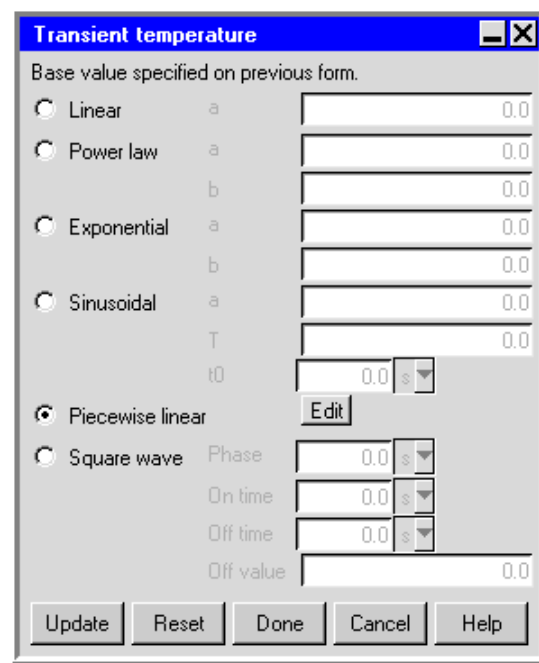
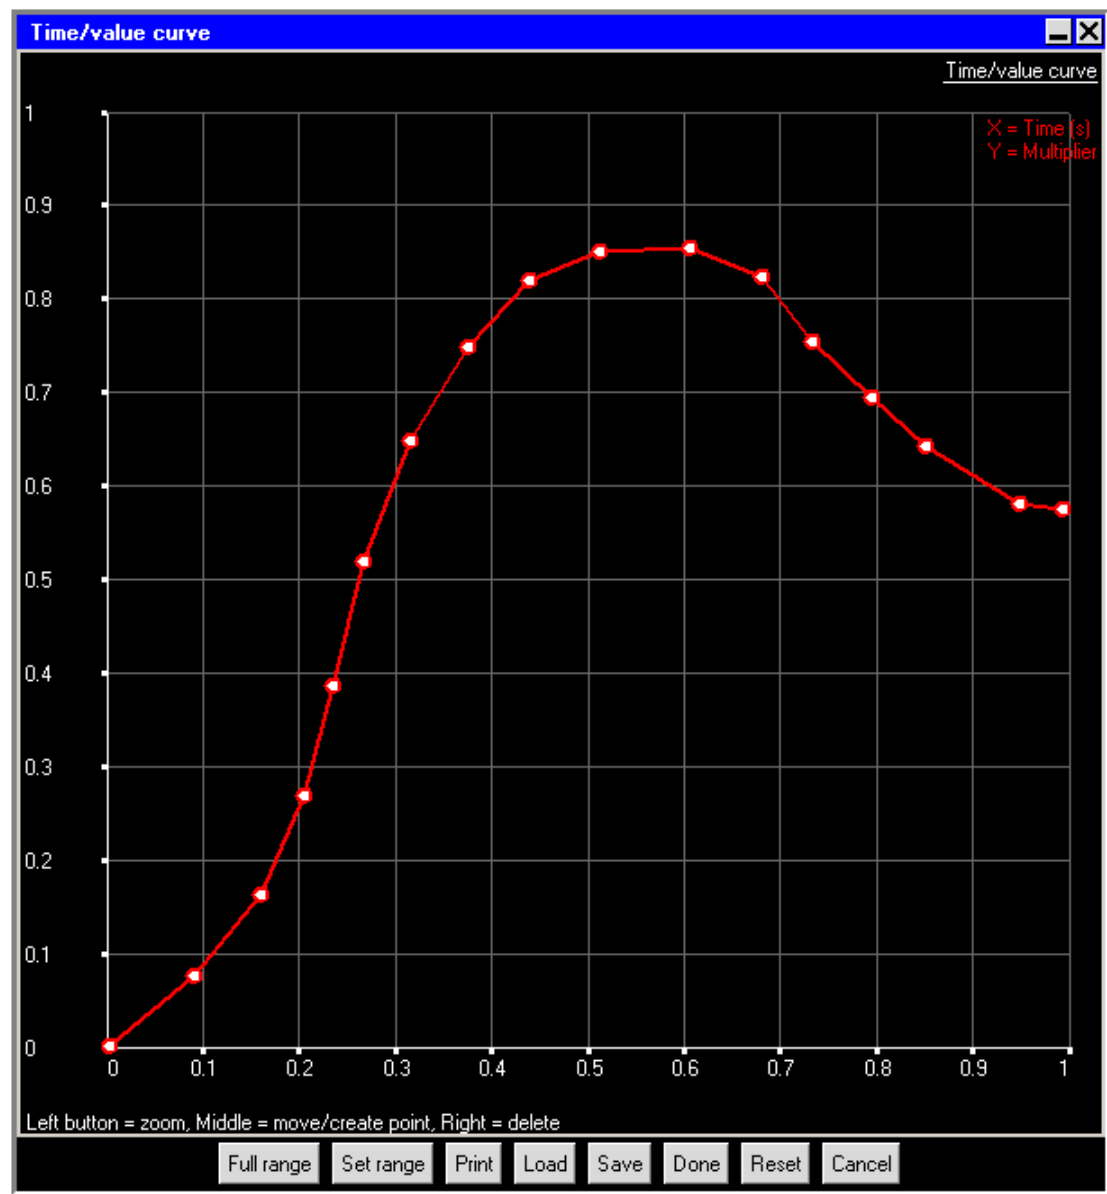
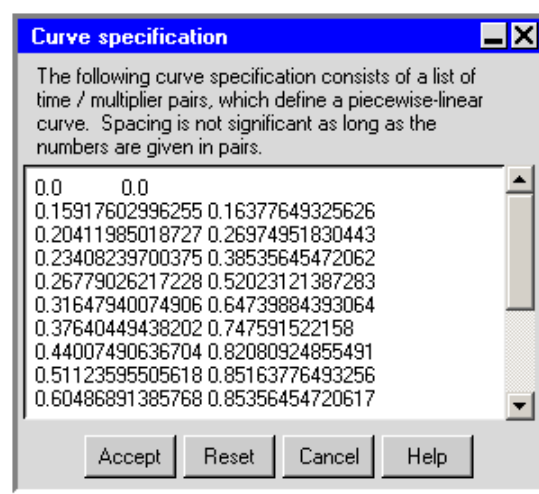

Figure 20.1.6: The Transient temperature Panel
Figure 20.2.3: The Time/value curve Graphics Display and Control Window
Figure 20.2.5: The Curve specification Panel
5. To define the variation of ambient temperature as a function of time, select **Transient** next to **Temperature**, and then click **Edit**. This will open the **Transient temperature** panel shown in Figure 20.1.6.
- **Solid or fluid block:** Specify the total power as a function of time by selecting the **Transient** option in the **Properties** tab of the **Blocks** panel (see Chapter 8) and clicking **Edit**. The **Transient power** panel used to define the transient power of the block is very similar to the **Transient temperature** panel shown in Figure 20.1.6. You must also specify the start time **tS** and the end time **tE** for the transient simulation for the block.
- **Hollow block:** Specify the species concentrations as a function of time (see Chapter 21 on species transport). Select **Species** in the **Blocks** panel and click the **Edit** button to open the **Species concentrations** panel. Select **Transient** for the desired species and click **Edit** to open the **Transient species** panel. The **Transient species** panel is used to define the transient species concentrations for the block and is very similar to the **Transient temperature** panel shown in Figure 20.1.6. You must also specify the start time **tS** and the end time **tE** for the transient simulation for the block.
- **Fan:** Specify the transient strength of a characteristic curve fan by turning on **Transient strength** in the **Properties** tab of the **Fans** panel (see Chapter 9) and clicking **Edit**. The **Transient fan strength** panel used to define the transient strength of the fan is similar to the **Transient temperature** panel shown in Figure 20.1.6, except that it contains only the **Piecewise linear** and **Square wave** options.
- **Opening:** For a free opening, you can specify the static pressure, temperature, x velocity, y velocity, or z velocity for flow across the opening as a function of time, by turning on the **Transient** option in the **Properties** tab of the **Openings** panel (see Chapter 11) and clicking **Edit**. The **Transient pressure**, **Transient temperature**, **Transient X velocity**, **Transient Y velocity**, and **Transient Z velocity** panels are very similar to the **Transient temperature** panel shown in Figure 20.1.6. You must also specify the start time **tS** and the end time **tE** for the transient simulation for the opening.
- **Wall:** You can specify the rate of heat transfer through the wall or the temperature on the outer surface of the wall as a function of time, by turning on the **Transient** option in the **Properties** tab of the **Walls** panel (see Chapter 11) and clicking **Edit**. You can also specify the heat transfer coefficient as a function of time by turning on the **Transient** option in the **Wall external thermal conditions** panel. To open the **Wall external thermal conditions** panel, select **External conditions** in the **Walls** panel and click **Edit**. The **Transient power/area**, **Transient temperature**, and **Transient heat tr coeff** panels are very similar to the **Transient temperature** panel shown in Figure 20.1.6. You must also specify the start time **tS** and the end time **tE** for the transient simulation for the wall.
- **Conducting thick partition:** Specify the total power as a function of time by selecting **Transient** in the **Properties** tab of the **Partitions** panel (see Chapter 14) and clicking **Edit**. The **Transient power** panel used to define the transient power of the partition is very similar to the **Transient temperature** panel shown in Figure 20.1.6. You must also specify the start time **tS** and the end time **tE** for the transient simulation for the partition.
is very similar to the **Transient temperature** panel shown in Figure 20.1.6. You must also specify the start time **tS** and the end time **tE** for the transient simulation for the source.
- **Resistance:** Specify the total power as a function of time by selecting **Transient** in the **Properties** tab of the **Resistances** panel (see Chapter 16) and clicking **Edit**. The **Transient power** panel used to define the transient power of the resistance is very similar to the **Transient temperature** panel shown in Figure 20.1.6. You must also specify the start time **tS** and the end time **tE** for the transient simulation for the resistance.
You can specify a piecewise linear variation of a variable with time using the Time/value curve graphics display and control window (Figure 20.2.3). To open the Time/value curve window, select **Piecewise linear** in the **Transient temperature** panel (Figure 20.1.6) or in any similar transient parameter panel, and click **Edit**. Select **Graph editor** from the resulting list.
Click **Done** when you have finished creating the curve; this will store the curve and close the **Time/value curve** graphics display and control window. Once the curve is defined, you can view the pairs of coordinates defining the curve in the **Curve specification** panel. See Figure 20.2.5 for the pairs of coordinates for the curve shown in Figure 20.2.3.
You can define a piecewise linear variation of a variable with time using the **Curve specification** panel (Figure 20.2.5). To open the **Curve specification** panel, select **Piecewise linear** in the **Transient temperature** panel (Figure 20.1.6) or in any similar transient parameter panel, and click **Edit**. Select **Text editor** from the resulting list.
Once the pairs of coordinates have been entered, you can view the piecewise linear curve in the **Time/value curve** graphics display and control window. See Figure 20.2.3 for the piecewise linear curve for the values shown in Figure 20.2.5.